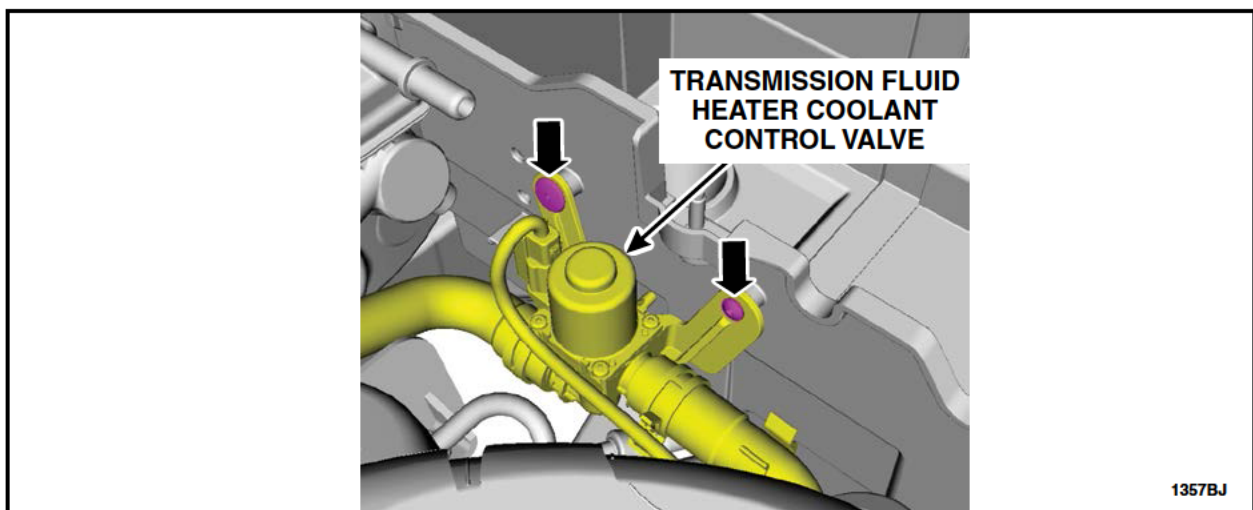

FIGURE D5
8. Install the transmission fluid heater coolant control valve to the battery tray and install the two (2) retainers. See Figure D5.